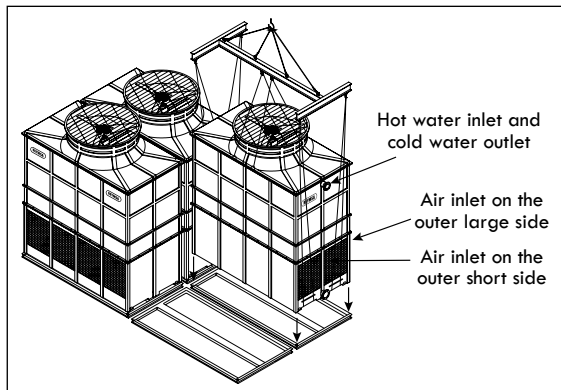
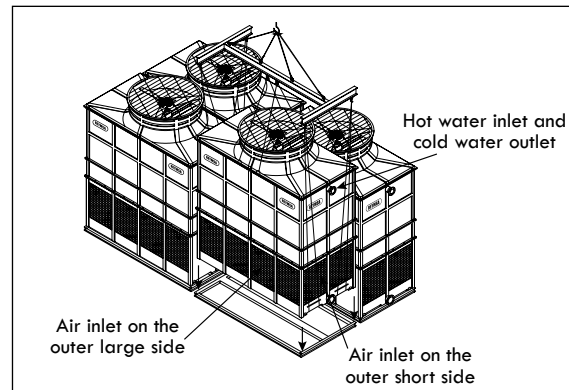

Figure A-105: X-Orientation - Third T2 module lifting and installation (RTGM and RTGMTC Models)
Figure A-106: X-Orientation - Fourth T2 module lifting and installation (RTGM and RTGMTC Models)
- D. Repeat the previous two steps to install the remaining modules. Pay attention to the correct module arrangement; Each module is labeled alphabetically (module 1: A; module 2: B, etc.) for a proper installation (see Figure A-105 and Figure A-106).